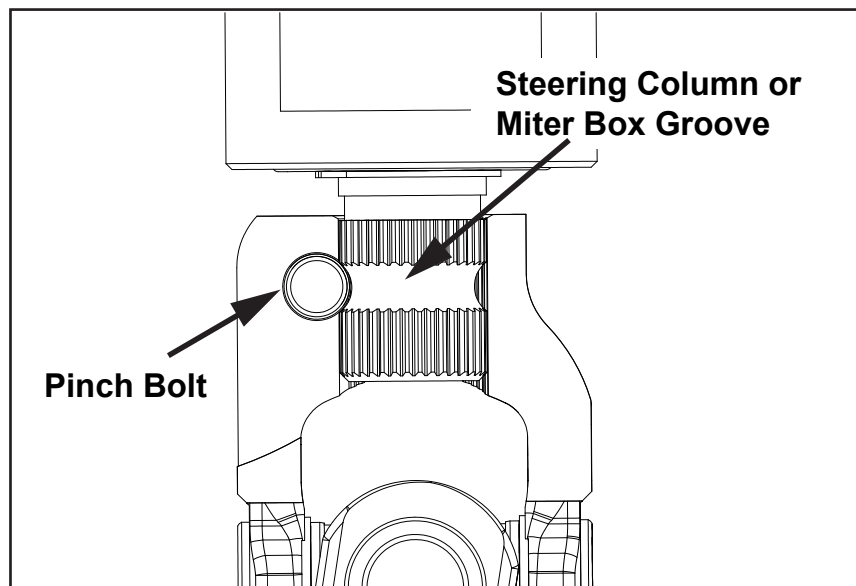

Figure 4
4. Verify the steering column shaft is fully installed onto the steering column. At the base of the steering column or miter box, install (1) S38100009-001 bolt and nut, verify the bolt passes through the groove of the steering column and tighten to 75 Lbs.-ft. of torque (see *Figure 4*).
9. Verify the steering column shaft is properly installed. Install (1) S38100009-001 Bolt and nut at the steering column miter box, verify the bolt passed through the groove in the miter box shaft and tighten to 75 Lbs.-ft. of torque (see *Figure 4*).